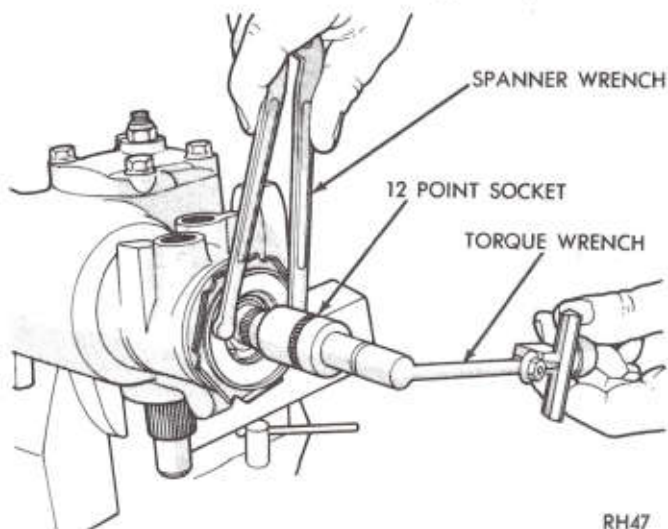

Fig. 2—Adjusting Thrust Bearing Preload
(2) Worm thrust bearing adjustment (Fig. 2)